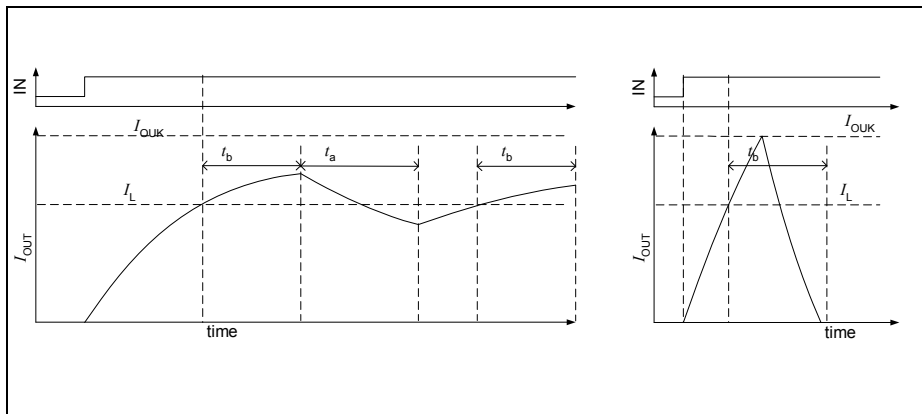

Figure 5 Short to Vs detection. Left: normal operation. Right: short circuit is detected
Due to the chopper current regulation, the low-side switches are already protected against a short to the supply voltage. To be able to distinguish a short circuit from normal current limit operation, the current limitation is deactivated for the blanking time t_b after the current has exceeded the current limit threshold I_L . If the short circuit detection current I_{OUK} is reached within this blanking time, a short circuit is detected (see **Figure 5**). All output transistors are turned OFF and the according error bit "Short Circuit to Battery on output 1 (2)", SCB1 (SCB2) is set.